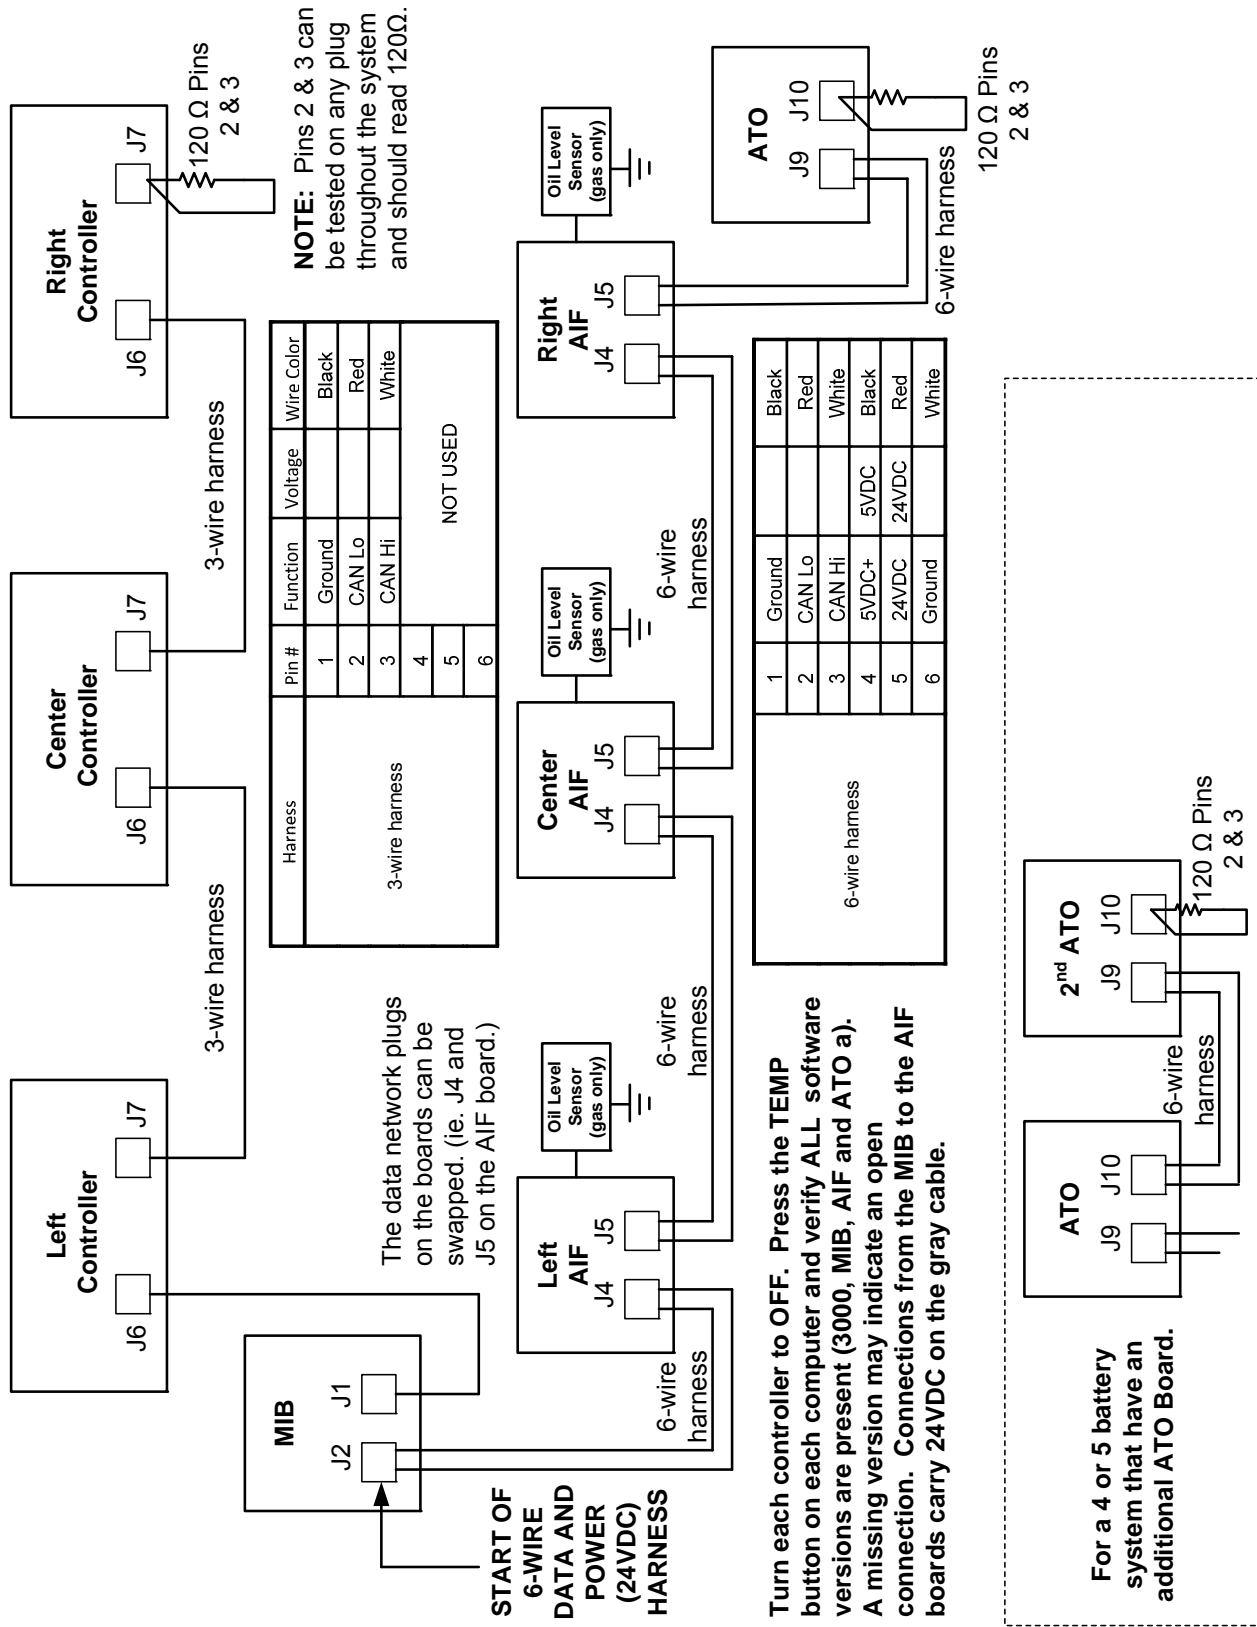

Figure 17
3. With the controller folded down, insert the SD card, with the contacts facing down and the notch on the bottom right (see Figure 17 and 18), into the slot on the left side of the controller.